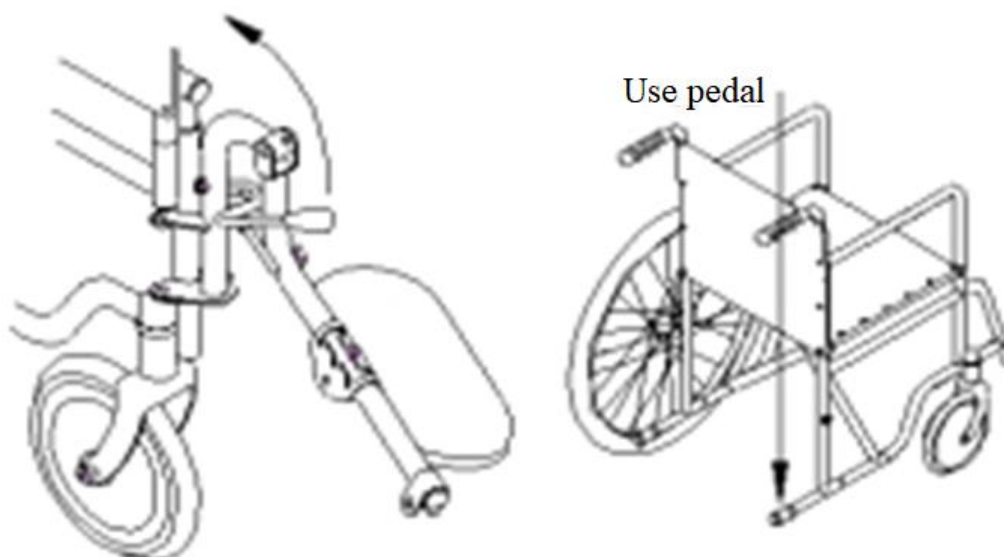

Figure 7
- If you purchase a wheelchair with a type A flexible leg support, simply lift the leg support to a suitable position when raising the leg support, then secure it by itself; when lowering, support the leg support slightly with one hand, the other hand moves the lifting handle forward, the leg support can be lowered, and once it is in a suitable position, the lifting handle can be released to secure it by itself. (See Figure 7)